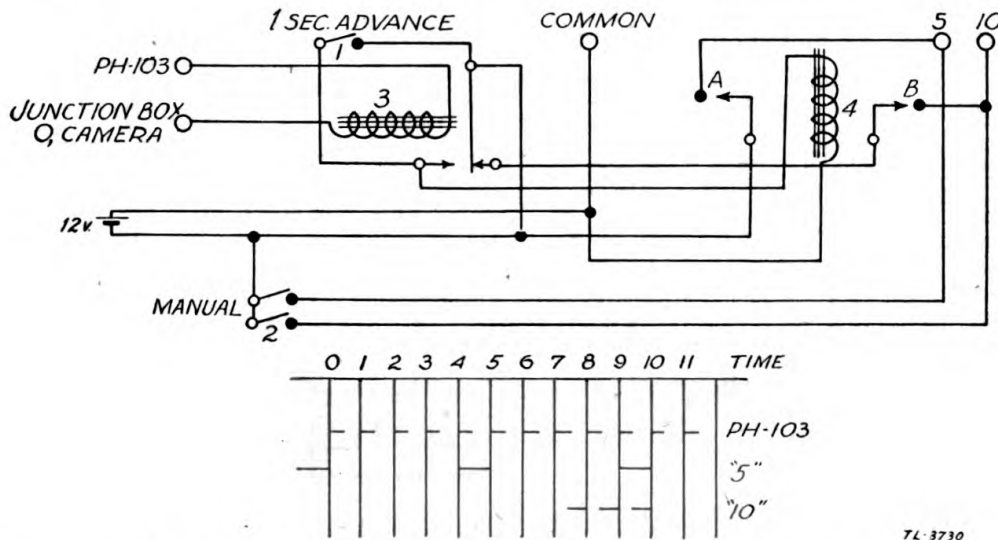

FIGURE 30.—Circuit diagram, time interval multiplier PH-264-().
35. Time interval multiplier PH-264-().—Figure 30 shows the multiplier circuit, which consists of two relays and two nonlocking push button type keys. In use, the winding of relay 3 is in series with the line from the time interval device to the O₁ theodolite junction box, so this relay is operated once each second by the time interval device. Relay 4 has two contacts, moved by two cams on a shaft with a 10-tooth ratchet wheel. The driving pawl is the armature of relay 4. Contacts A are closed by the A cam once for each of two diametrically opposite teeth on the ratchet. Each operation of relay 3 causes
relay 4 to be energized, advancing the ratchet wheel one tooth. As the cams rotate the contacts A will be closed by the two projections on the A cam once every five operations of relays 3 and 4. Each time contacts A are closed 12-volt battery appears between the "common" terminal and the terminal marked "5" until the ratchet is advanced again, opening contacts A. This will occur every fifth second. Contacts B are closed once each 10 seconds continuously for three consecutive teeth on the ratchet, closing the path from terminal "10" to the back contact of relay 3. When relay 3 releases after having operated, 12-volt battery appears between the "common" terminal and the terminal marked "10." Contact B will remain closed for two more operations of relays 3 and 4 so that three battery pulses will appear between terminals "common" and "10." The time chart shown in figure 30 illustrates the sequence of battery pulses obtained. Pressing the manual key impresses battery between the "common" and both the "5" and "10" terminals. The "1 sec. advance" key operates the stepping relay 4 once each time the key is pressed.